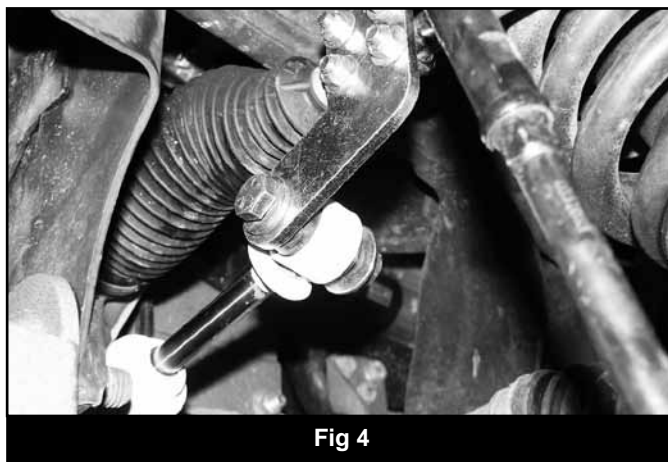

Fig 4
6. Loosely install the rod end of the stabilizer cylinders to the tie rod brackets with $\frac{1}{2}$ " x 2-1/2" bolts, nuts and $\frac{1}{2}$ " washers. Use a SAE (small) washer at the bolt head and a USS (large) washer at the threads (Fig 4) The cylinders mount to the back surface of the brackets, the bolt heads should be to the front of the vehicle.